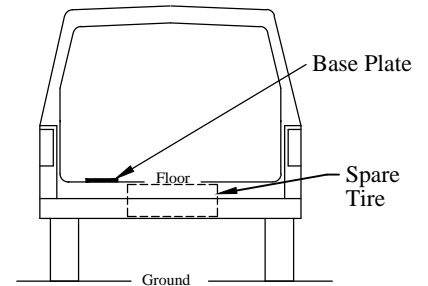

Figure 2: Base plate location and obstructions.
- 1. Examine** the interior and exterior of the van for possible obstructions such as rear air conditioning, heater vents, electrical wiring, spare tire, etc (Figure 2).
- 2. Examine** the underside of the van for obstructions that could be damaged when drilling through the van floor: fuel tank, frame rail, spare tire, wiring, etc (Figure 2 and 3).